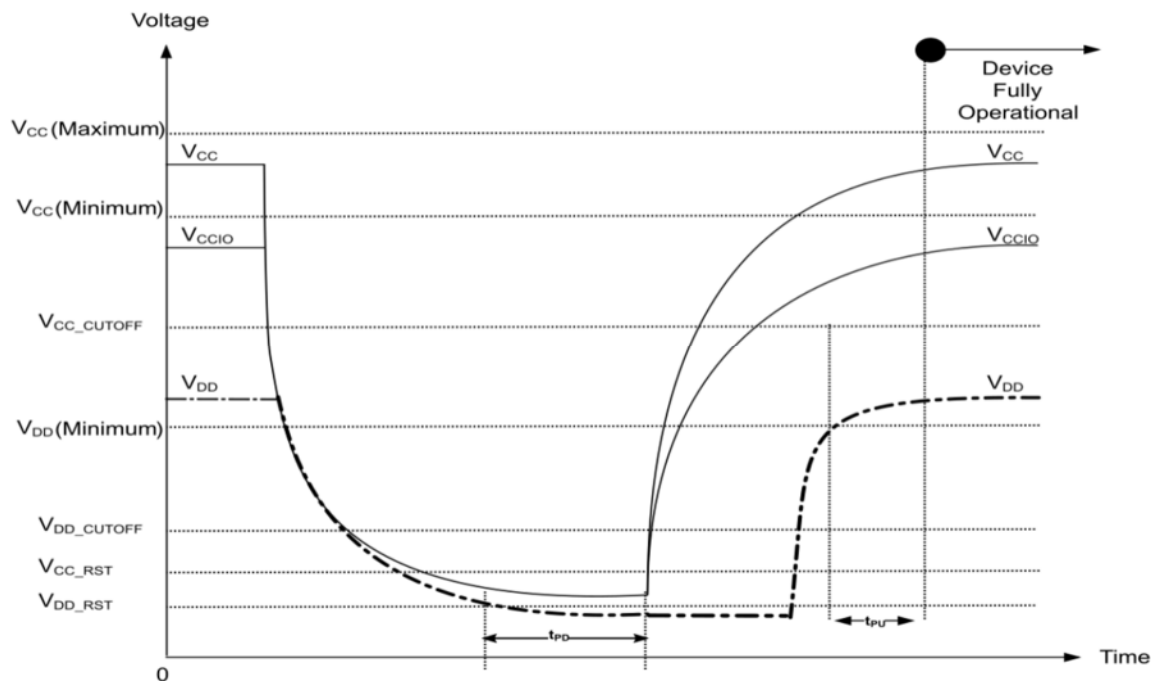

Figure 8: Power-Down Behavior
- During Power-up, recovering from power loss or brownout, a delay of t_{PU} is required before normal operation commences (Figure 8).